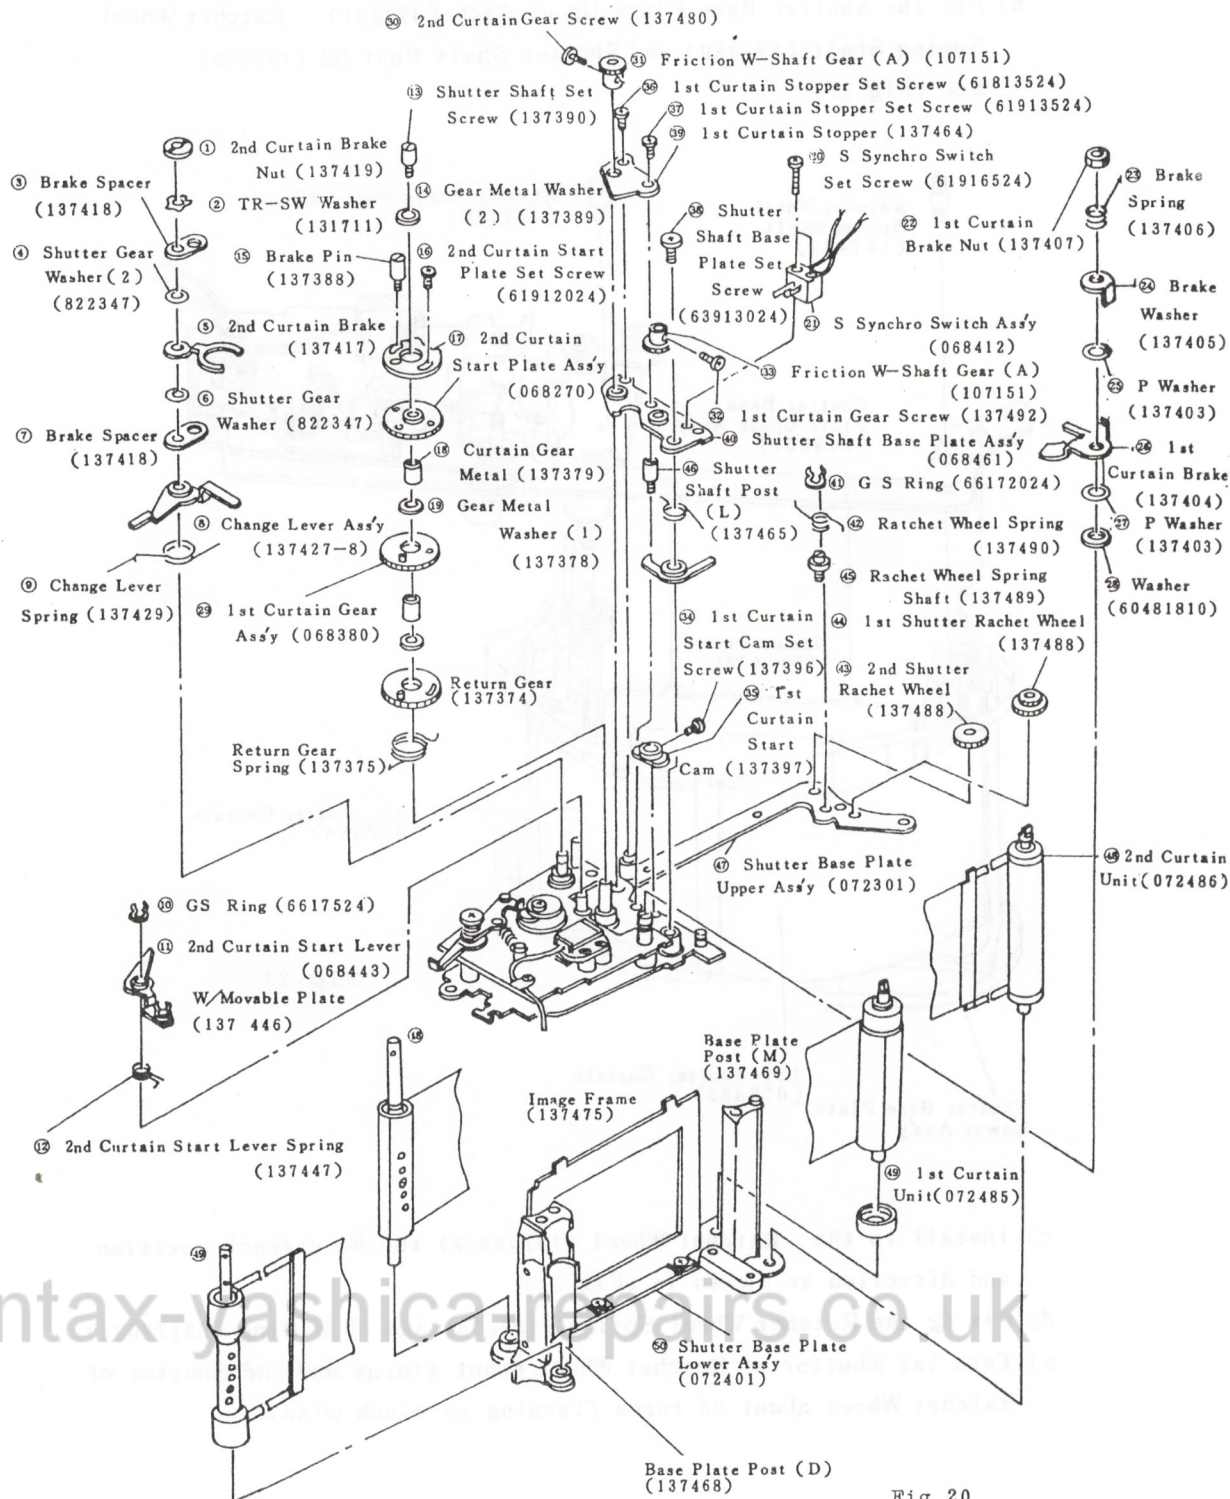

Fig 20
Clockwise until the Curtains becomes very slack. (Fig 20).
- b) Remove the respective Parts ① ~ ④⑥ shown in (Fig 20) in numerical order.